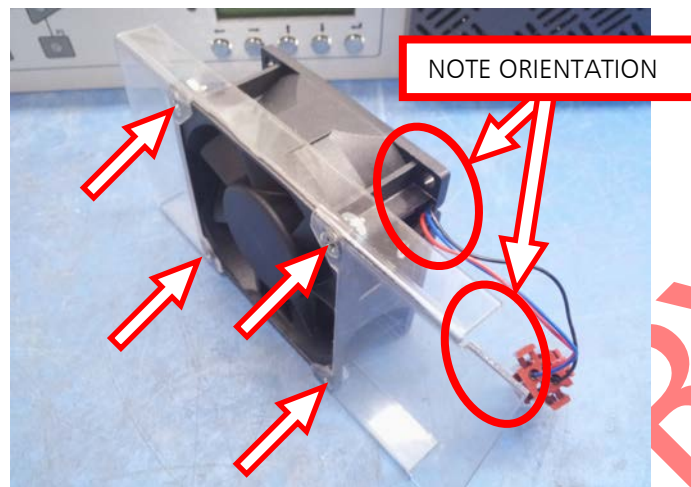

Figure 26 – Fan Assembly Detail
2. Note the front/back and wire orientations highlighted in Figure 26 relative to the case cutout. Use a Phillips screwdriver to remove the four screws and nuts securing the fan to the case.